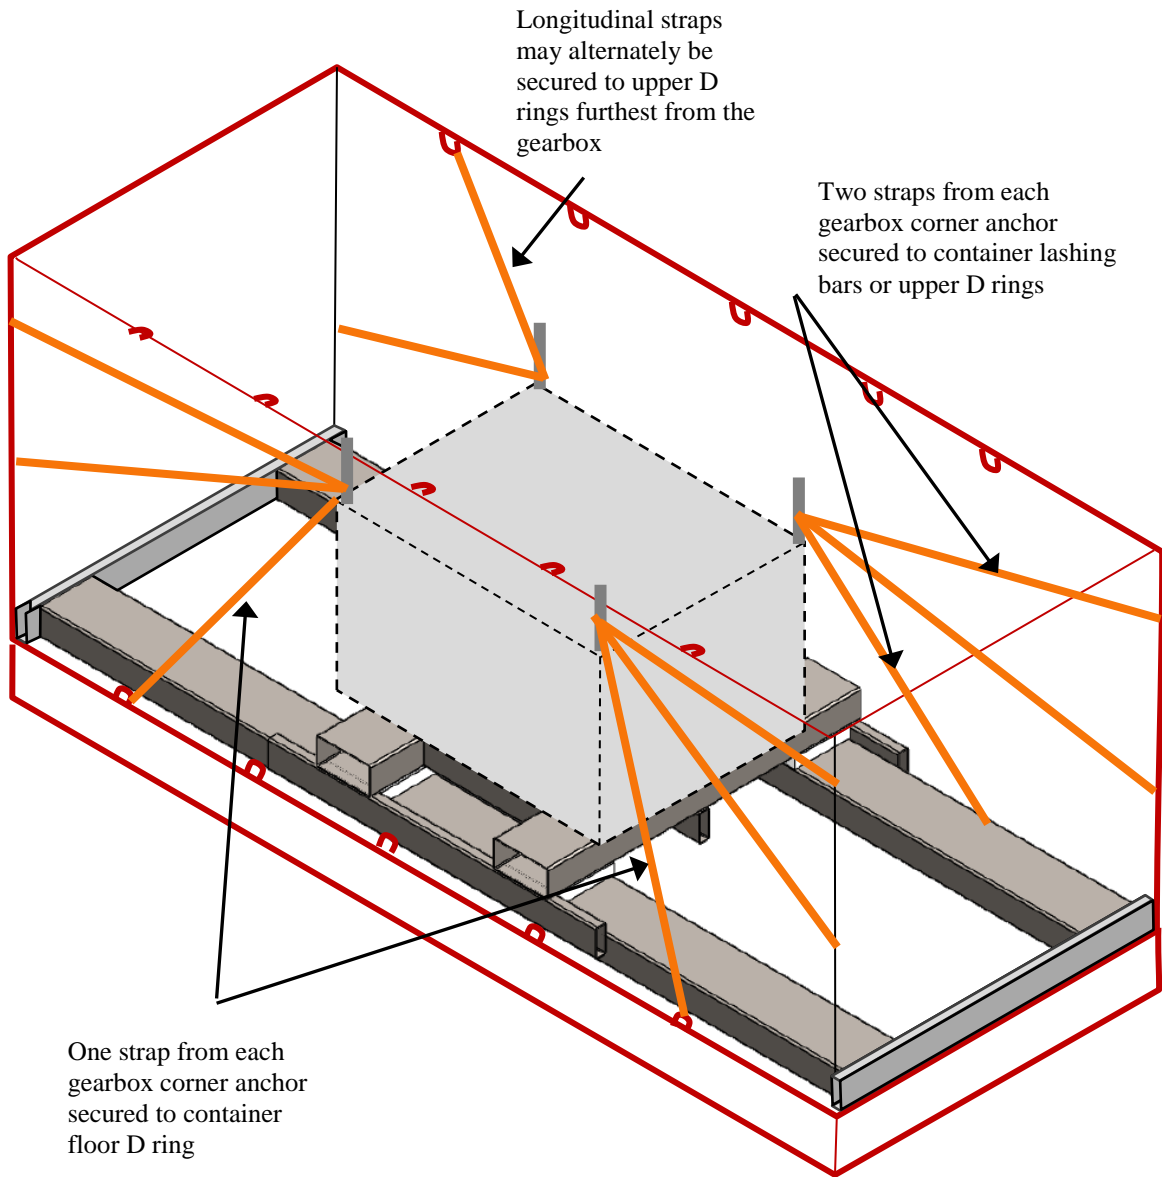

Figure 3: Gearbox Anchored to Container Securement Points
- The gearbox is attached to securement points in the container with a minimum of 12 straps, minimum of 3 per corner, each strap having a minimum breaking strength of 11,000 lbs (5,000 kgs). Each strap is anchored to a different container lashing point: either upper or lower D rings, or lashing bars in container forward corners, or the rear doorpost slots as shown in Figure 3. One of the 3 straps from each corner is secured to D rings at the container floor. Two of the 3 straps are secured to lashing bars as depicted in Figure 3. Should an unsuitable lashing bars be available, the straps are secured to separate upper D rings furthest away from the gearbox. Straps are secured to anchors mounted to the gearbox. Install and tension straps per manufacturer's instructions.